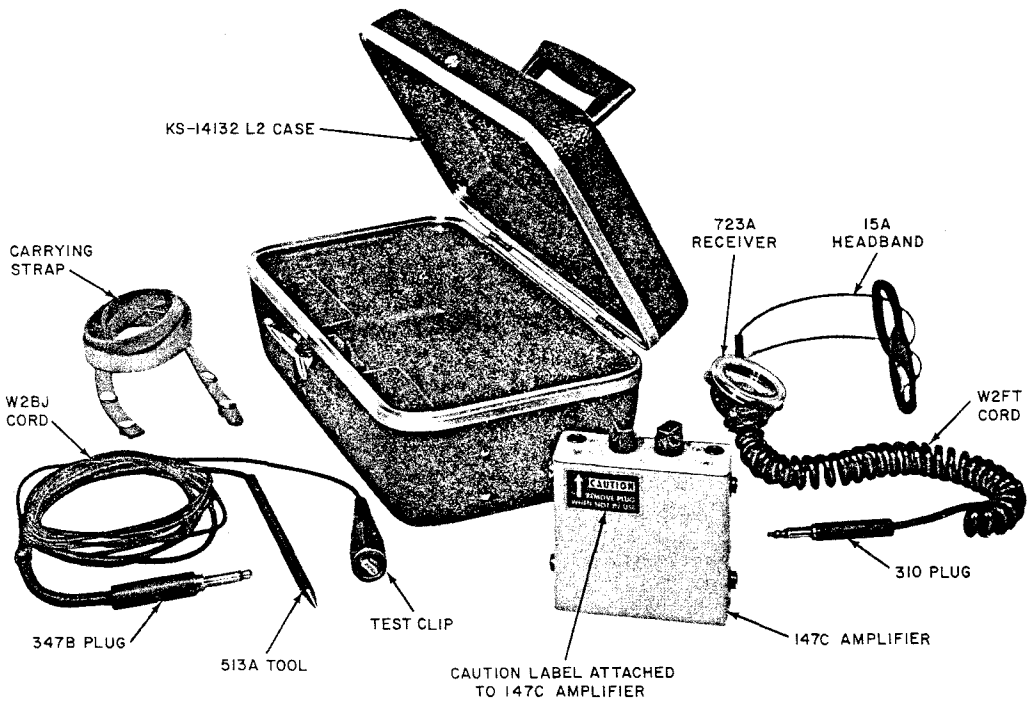

Fig. 1—91A Test Set
2.01 The 91A test set is illustrated in Fig. 1.